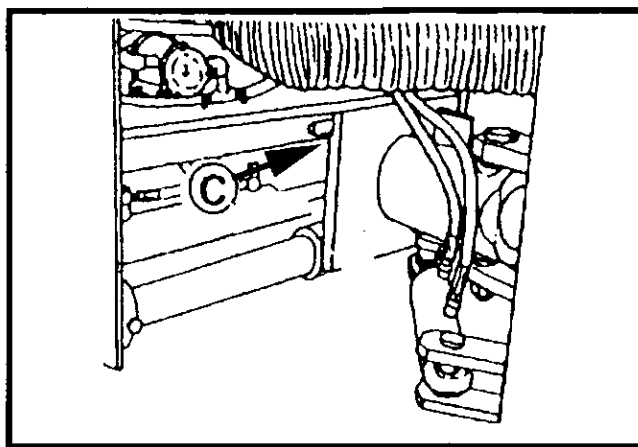
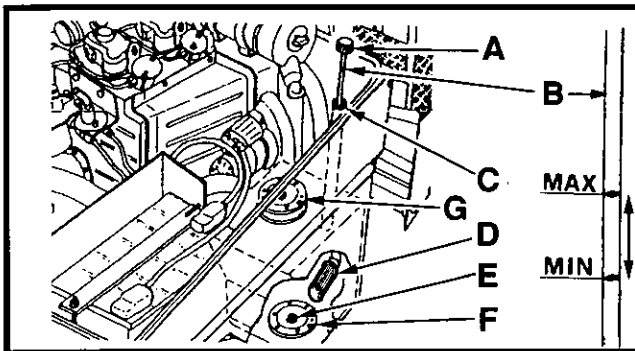

Figure 5-16 Drum Offset Guide Grease Point
Figure 5-18 Hydraulic Oil Tank, Dipstick
1. Clean the grease fitting ('C', Figure 5-16).
1. Check hydraulic oil level by viewing dipstick ('B', Figure 5-16) located on the hydraulic tank. The fill cap ('A', Figure 5-18) includes a dipstick to check the oil level.
3. If necessary, add fresh, clean (filtered through 10 micron filter) anti-wear hydraulic oil through the filler ('C', Figure 5-18). Bring to a full level. It is
*In the event that there is indication of contamination of the hydraulic system due to part failure or ingress of dirt into the hydraulic tank, then remove drain plug ('E', Figure 5-18) and the access cover ('F', Figure 5-18) and thoroughly clean out the tank interior. On later models fitted with the suction strainer/filter ('F', Figure 5-18), clean or replace this filter. Follow refill as above.*